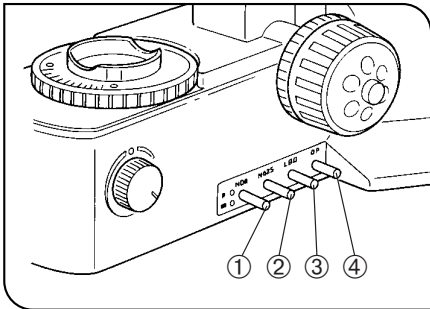

Fig. 5
### 3 Using the Filters (Figs. 5 - 10)
**Using Built-In Filters (Fig. 5)**